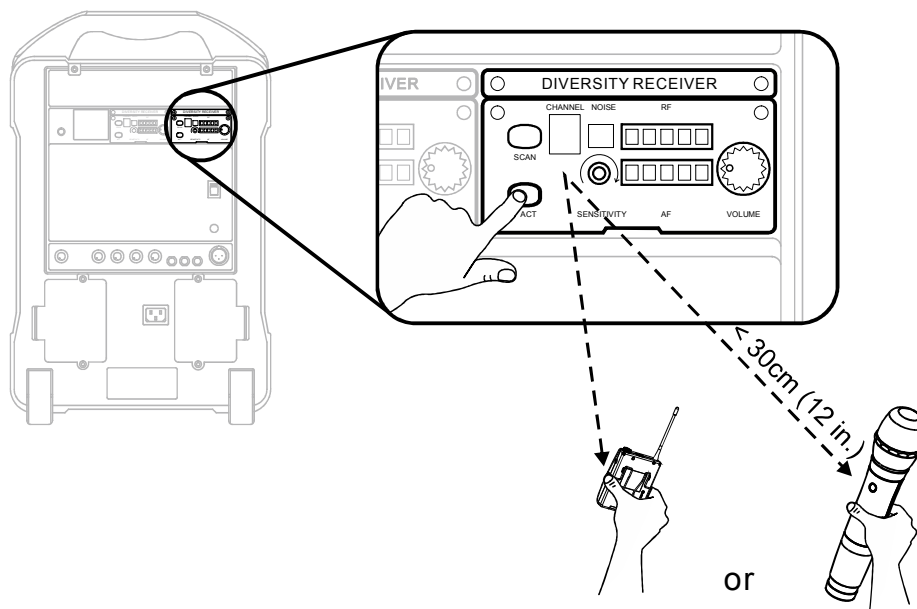

Fig. 8
- (A) Noise or interference is heard during a presentation or performance.
- (B) When two or more receiver modules are installed, therefore, two or more compatible channels are required to be used simultaneously at the same place.
- (A) Do not attempt to change a new receiver channel during a performance where two or more transmitters/microphones are being used simultaneously to avoid interferences with each other generated by the transmitting microphone signals.
- (B) “_” displays in Channel display screen **A7** denotes this receiver channel is currently experiencing interference, therefore, scan for a new, open receiver channel
- (A) Ascertain both receiver and transmitter are powered on. Press ACT button **A5** on receiver to activate IR (infrared) channel synchronization. Existing channel blinks **A7**.
- (B) Align the ACT sync windows of both transmitter and receiver within 30cm of each other for an automatic channel synchronization, Fig. 8.
- (C) If ACT channel synchronization is performed successfully, the new channel in Channel Display Screen stops blinking, RF indicators are lit and audio indicators are lit once you speak into the microphone.